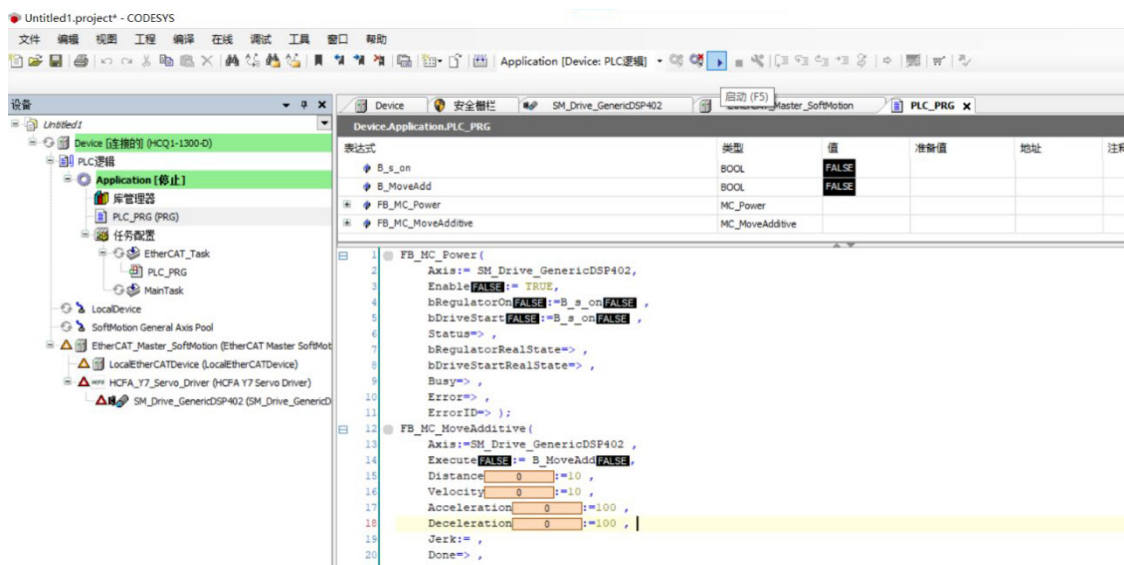

Figure 13-19 Start PLC
1. After the login completed, click [Start] to run the PLC, as shown in Figure 13-19.